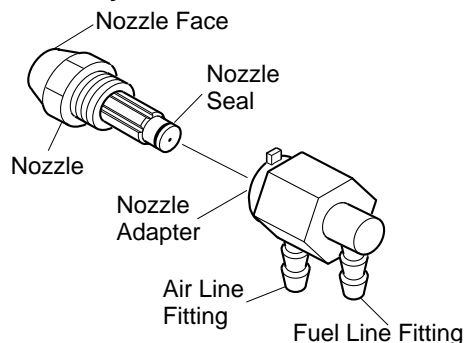

Figure 21 - Nozzle and Nozzle Adapter
6. Carefully remove nozzle from the nozzle adapter using 5/8" socket wrench (see Figure 21).
9. Replace nozzle into nozzle adapter until nozzle seats. Tighten 1/3 turn more using 5/8" socket wrench (40-45 inch-pounds). See Figure 21.